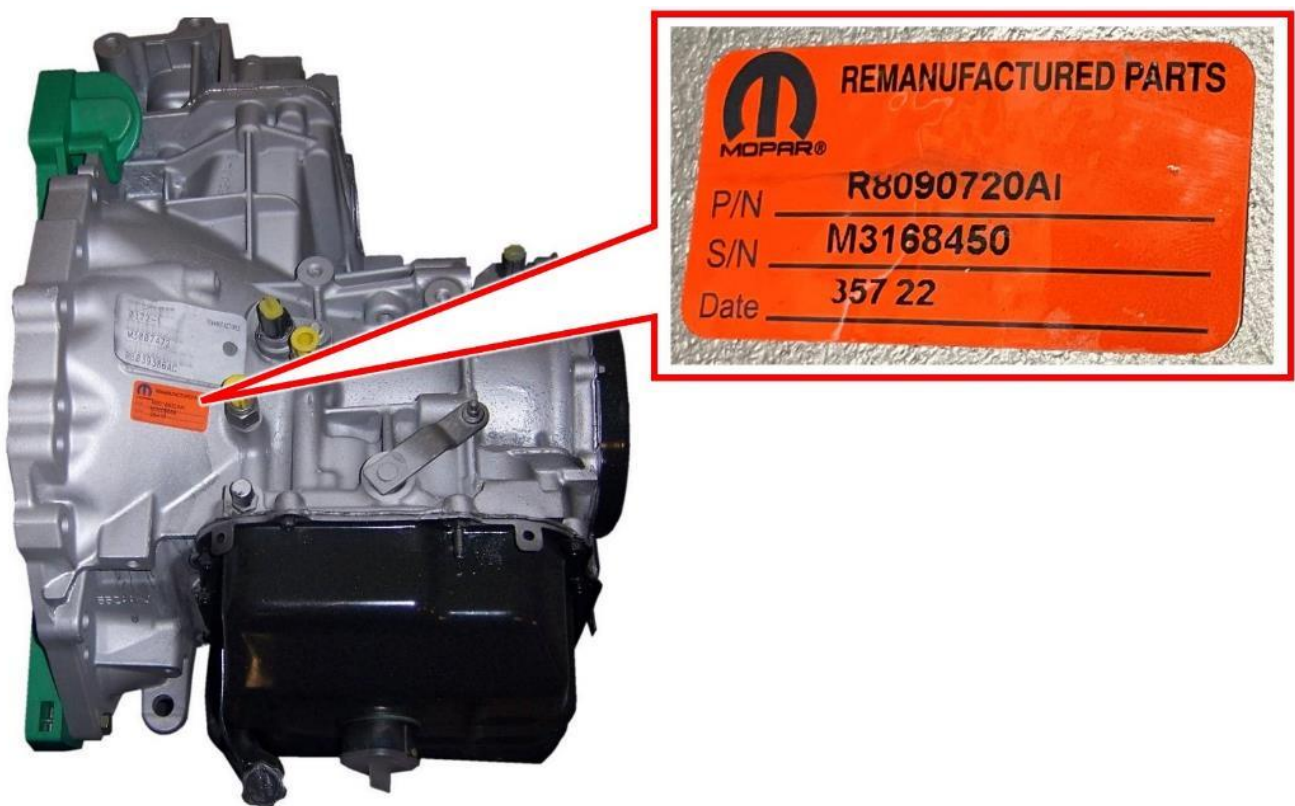

**Figure 2 – Remanufactured Transmission – Inspect Serial Number**
1. Inspect the transmission for a sticker indicating that it has been remanufactured (Figure 2).
2. If a remanufactured sticker was located on the transmission, read the sticker Serial Number (Figure 2).